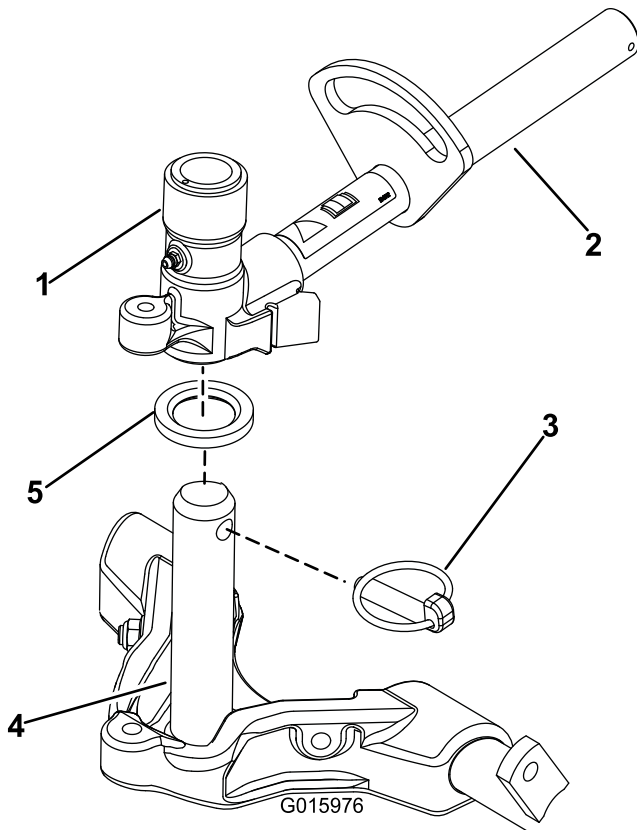

Figure 14
8. Coat the carrier frame shaft with clean grease (Figure 14).
9. For the front cutting units, slide a cutting unit under the lift arm while inserting the carrier frame shaft up into the lift arm pivot yoke (Figure 14). Make sure the thrust washer is in position on the carrier frame shaft.
10. Secure the carrier frame shaft to the lift arm yoke with the Klik pin (Figure 14).
- B. Insert the lift arm yoke onto the carrier frame shaft (Figure 14).